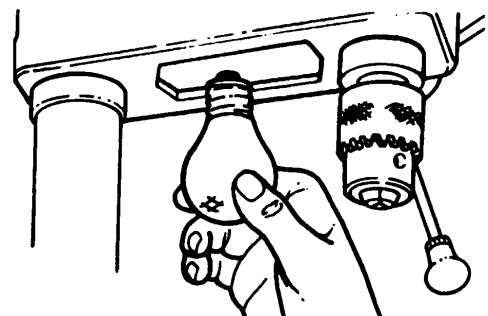

FIGURE 18
1. Install a light bulb (no larger than 60Watts) into the socket inside the head. (Fig.18). The light switch can be found on the left side of the drill press head.